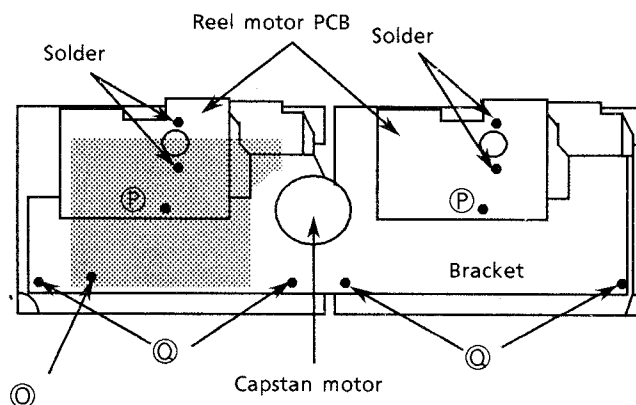

Fig 17
3. Remove the screw ① to remove the echo circuit board (Fig 17).
4. Remove the screw ② fixing the reel motor PCB.
3. Remove the 4 screws ③ fixing the bracket (Fig 17).
3. Remove the screws ㉑ and the bracket to remove the fly wheels (Fig 17).